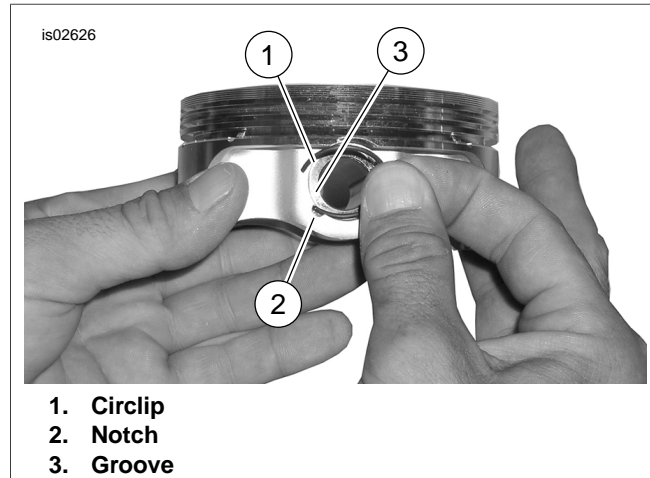

Figure 3. Circlip and Piston
8. See Figure 3. Insert the open end of the circlip (1) into the notch (2) on the groove (3) around the piston pin boss so that the gap is at the 12:00 or 6:00 o'clock position when installed.